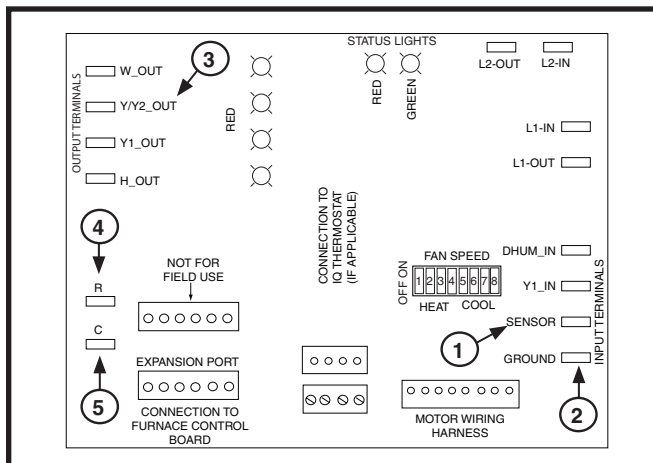

Figure 7. Motor Control Board
12. Connect the wires in the Indoor Coil Temperature Sensor Cable to the Motor Control Board (Figure 7) located in the blower compartment:
- Attach the red wire to the terminal labeled SENSOR (1).
- Attach the black wire to the terminal labeled GROUND (2).